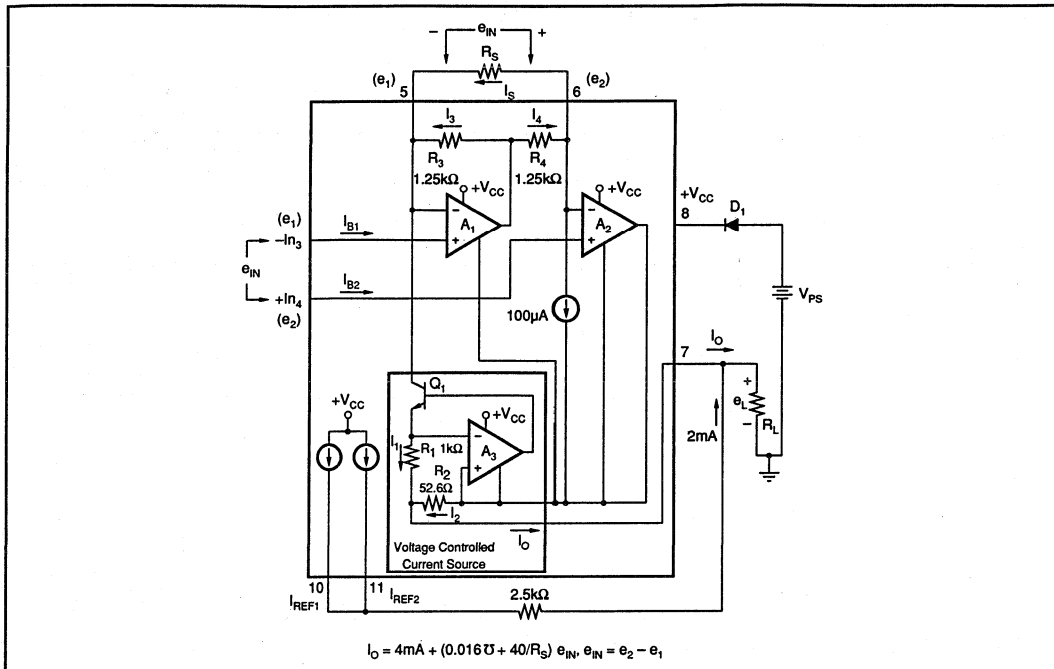

FIGURE 1. Simplified Schematic of the XTR101.
A simplified schematic of the XTR101 is shown in Figure 1. Basically the amplifiers, A_1 and A_2 , act as a single power supply instrumentation amplifier controlling a current source, A_3 and Q_1 . Operation is determined by an internal feedback loop. e_1 applied to pin 3 will also appear at pin 5 and similarly e_2 will appear at pin 6. Therefore the current in R_S , the span setting resistor, will be $I_S = (e_2 - e_1)/R_S = e_{IN}/R_S$. This current combines with the current, I_1 , to form I_2 . The circuit is configured such that I_2 is 19 times I_1 . From this point the derivation of the transfer function is straightforward but lengthy. The result is shown in Figure 1.
The basic connection of the XTR101 is shown in Figure 1. A difference voltage applied between input pins 3 and 4 will cause a current of 4-20mA to circulate in the two-wire output loop (through R_L , V_{PS} , and D_1). For applications requiring moderate accuracy, the XTR101 operates very cost-effectively with just its internal drive transistor. For more demanding applications (high accuracy in high gain) an external NPN transistor can be added in parallel with the internal one. This keeps the heat out of the XTR101 package and minimizes thermal feedback to the input stage. Also in
- It is recommended that a reverse polarity protection diode (D_1 in Figure 1) be used. This will prevent damage to the XTR101 caused by a momentary (e.g., transient) or long term application of the wrong polarity of voltage between pins 7 and 8.